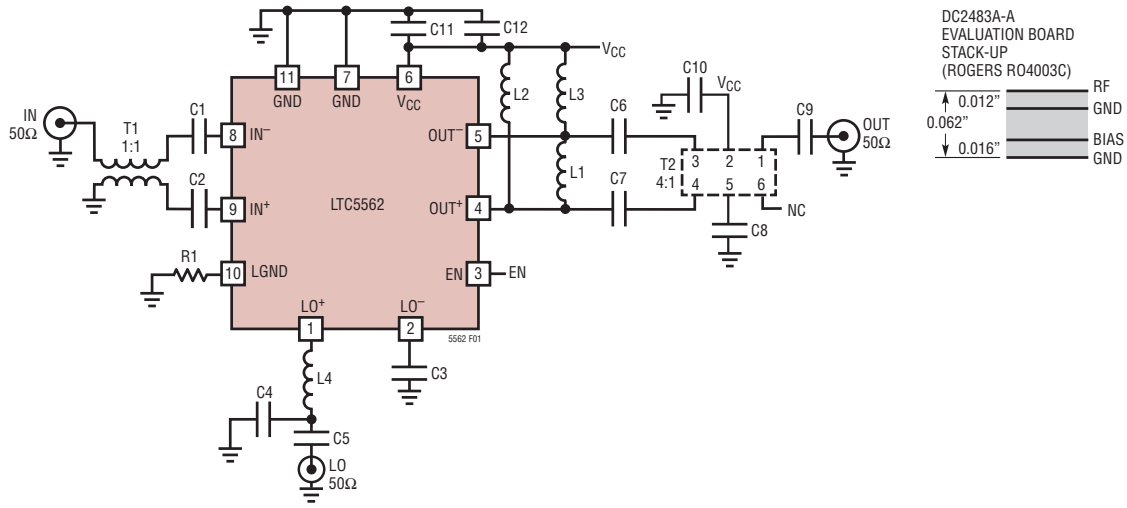
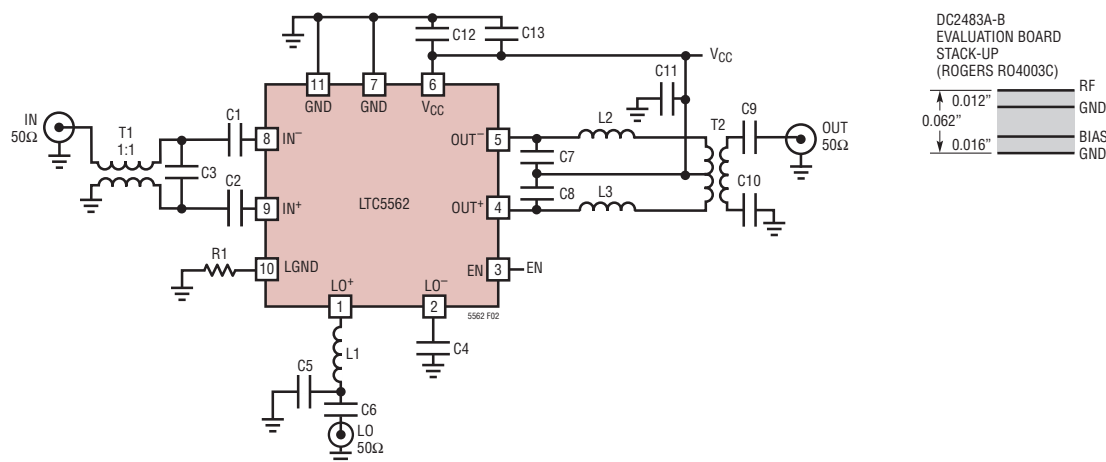

Figure 1. Low Power Upconverting Mixer Test Schematic
Figure 2. Low Power Downconverting Mixer Test Schematic
**TYPICAL DC PERFORMANCE CHARACTERISTICS** (Test Circuit Shown in Figure 1)
$V_{CC} = 3.3VDC$ ,  $T_C = 25^\circ C$ ,  $f_{IN} = 140MHz$ ,  $P_{IN} = -12dBm$  (-12dBm/tone for 2-tone OIP3 tests,  $\Delta f = 2MHz$ ).  $P_{LO} = -1dBm$ ,  $f_{LO} = f_{OUT} + f_{IN}$ , High Side LO, Output Measured at 900MHz,  $R_1 = 0\Omega$ , unless otherwise noted. Test Circuit Shown in Figure 1.
Low Side LO, Output Measured at 3.6GHz,  $R1 = 0\Omega$ , unless otherwise noted. Test Circuit Shown in Figure 1.
Low Side LO,  $R1 = 0\Omega$ , Output Measured at 800MHz, unless otherwise noted. Test Circuit Shown in Figure 2.
The upconverting test circuit, shown in Figure 1, utilizes bandpass matching and a 4:1 multilayer chip balun to realize a single-ended output. The downconverting test circuit, in Figure 2, uses a 8:1 wire-wound balun. The outputs may also be used to provide a differential signal, if DC blocking capacitors are used to isolate the output. Test circuit schematics showing all external components required for the data sheet specified performance are shown in Figures 1 and 2. Additional components may be used to modify the DC supply current or frequency response, which will be discussed in the following sections.